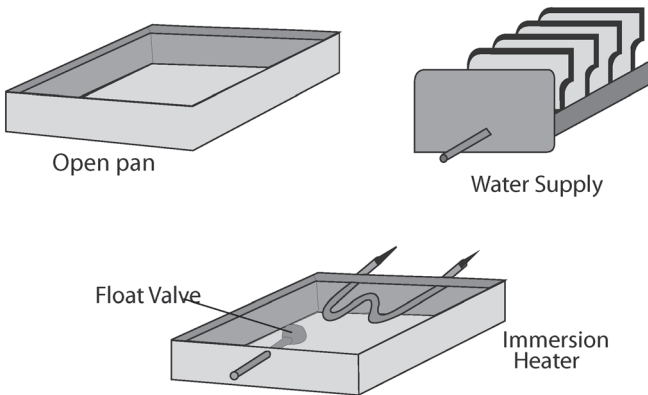

Figure 9-38. Pan Type Humidifiers
- Pan type (Figure 9-38), where an open pan of water is used to provide water vapor to the circulating air stream.